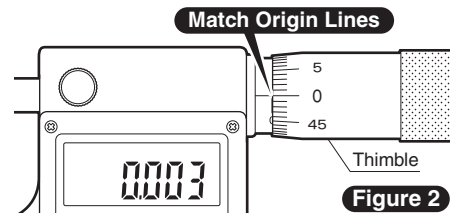

Figure 2
1. Tighten spindle clamp to lock spindle. **Figure 2**